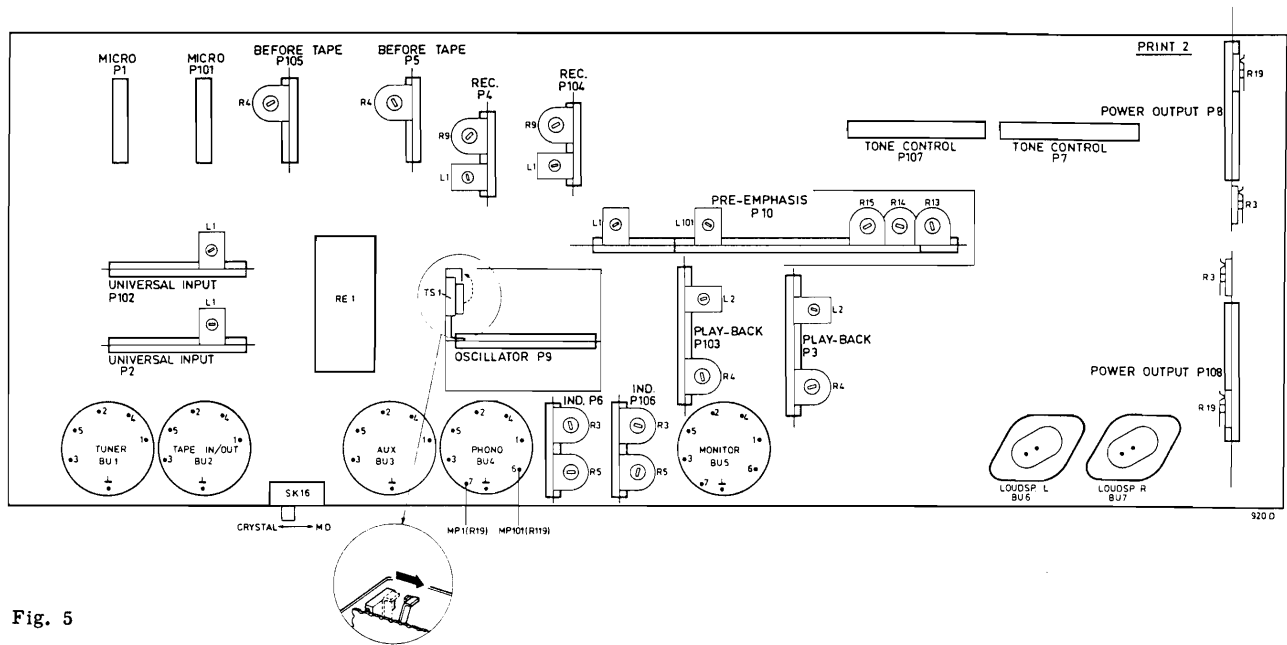

Fig. 5
*) To make sure that the bias current is measured as well, remove oscillator unit P9 from the apparatus (see Fig. 5).